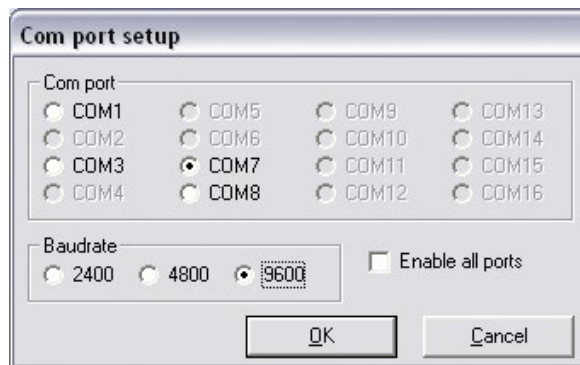

Figure 3-6 Port Setup Menu
1. Select “9600” baud rate from the Port Setup menu (Figure 3-6).